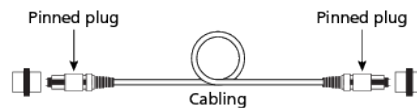

Figure 3. Pinned plugs on both ends (permanent link)
- pinned on both ends of the cabling (see Figure 3),